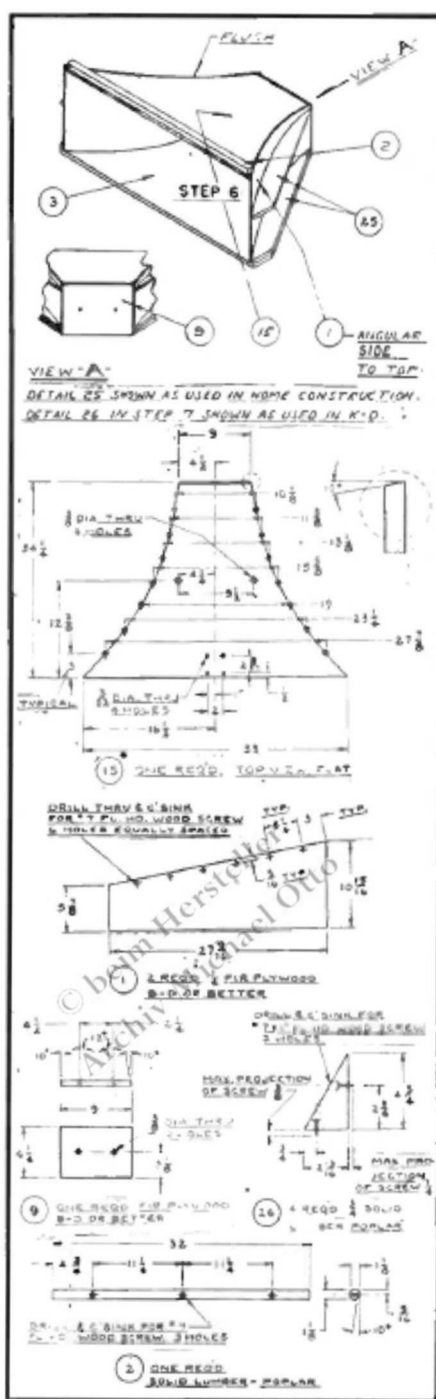

Fig. 3. Wood parts and assembly for the diffraction horn assembly which tops the low-frequency section.
Step 6 is the mid-bass diffraction horn assembly, with its parts shown in details 1, 2, 3, 9, 15, and 25, Fig. 3.
To ready the mid-bass diffraction horn sub-assembly for its place atop the 115 K horn housing, assemble parts 1, 2, 9, and 15 as in Fig. 3. Scribe a line on the angular side of 1, about  $\frac{5}{8}$ -inch in from the narrow end. Glue and nail 2 and 15, then glue and nail 1 and 15, with the scribed line flush with the narrow end of 15. And when you have glued and nailed 9, this assembly is complete.
Fig. 5. One of the two mid-bass driver units assembled to its phenolic three-pass folded horn. Two of these units "exhaust" into the large diffraction horn of Fig. 3.